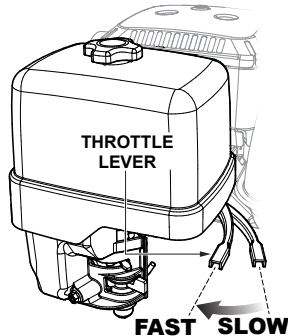

Figure 21. Throttle Lever
4. Rotate the **throttle lever** (Figure 21) halfway between **fast** and **slow** for starting. All cutting is done at **full throttle**. The engine governor speed is factory set to ensure optimum blade operating speeds